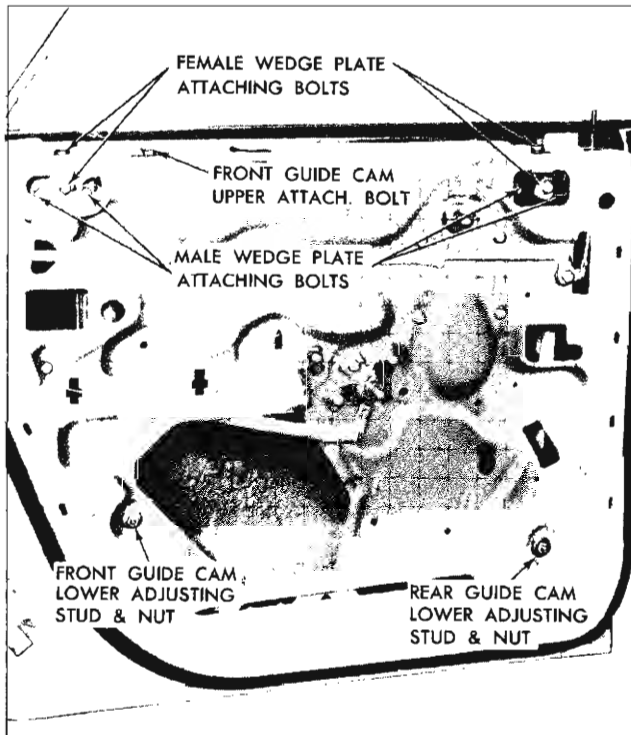

Fig. 3-55 Guide Cam and Wedge Plate Attachments
2. Through access holes in door inner panel, remove bolts securing window front and rear male wedge plates to lower sash channel and remove wedge plates (Fig. 3-55).
a. Loosen lower adjusting stud nut on both front and rear guide cams (Fig. 3-55).
NOTE: For rear guide cam attachment, refer to Fig. 3-55.
2. Remove rear guide cam upper attaching bolt and lower adjusting stud and nut (Fig. 3-55).